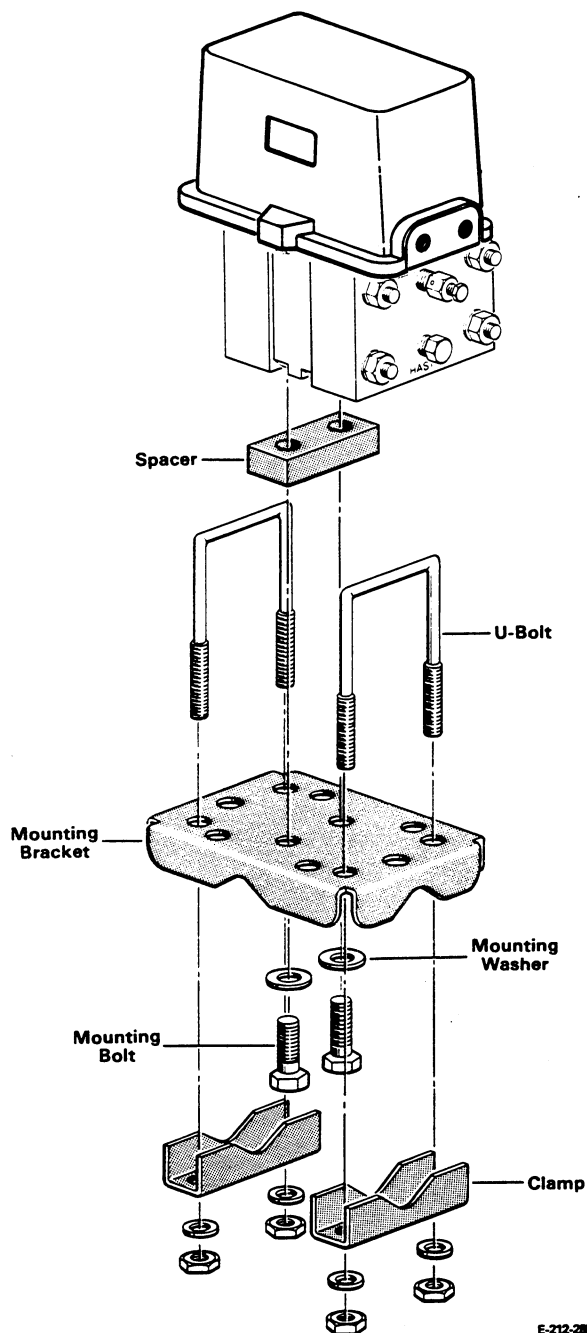

Figure 7. Assembling Optional Mounting Bracket-Kit, Accessory (146), on 397T Transmitters with Flange Face Connections
The transmitter can be mounted using the two 7/16-20 mounting holes in the bottom of the measuring element, Figure 7. An optional mounting bracket kit, Accessory (146), provides a bracket, U-bolts, clamps and fasteners, Figure 7. The bracket is